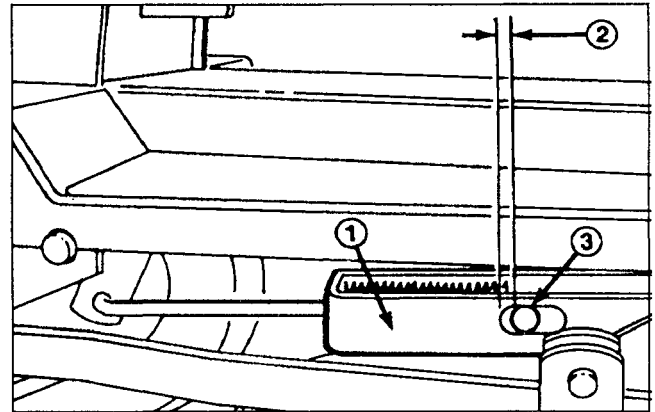

Figure 25
3. Rotate adjustment rod until there is 0.060 inch (1.5 mm) or less between end of slot in engagement bracket and outer diameter of pin (Fig. 25).